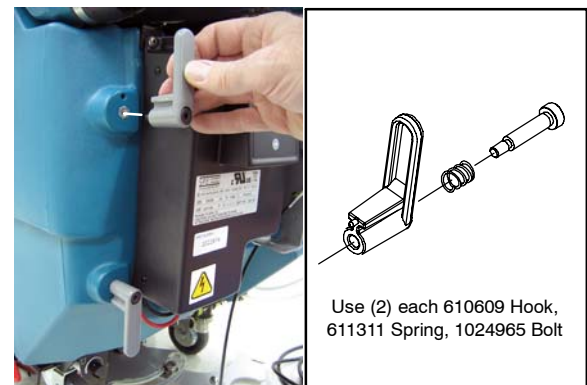

Fig. 7
- Attach (2) cord hooks to machine as shown (Figure 7).